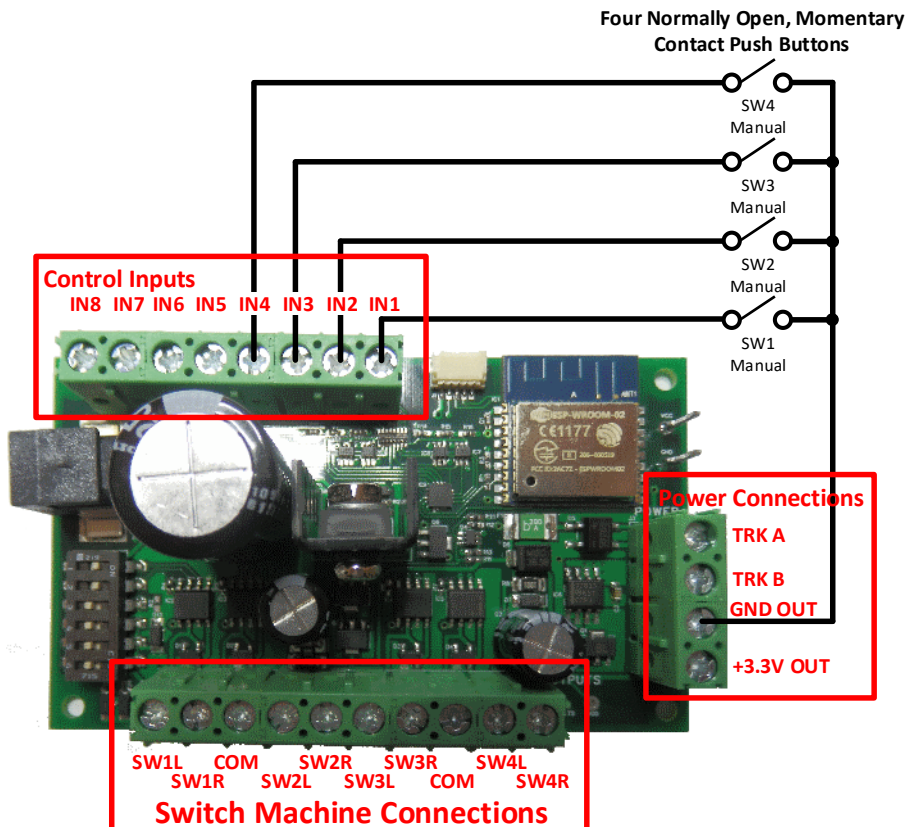

Figure 5. Connection Diagram for Manual Push Buttons
- (6) Optionally, install four normally open, momentary contact push buttons as shown in Figure 5.